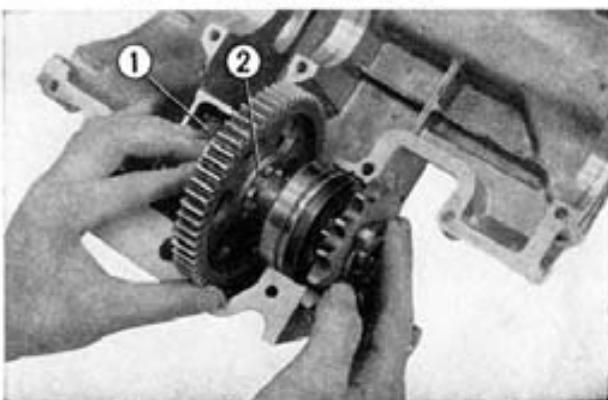

Fig. 5-4 ① Final shaft oil guide
4. Remove the final shaft oil guide and the final shaft assembly from the upper crankcase. (Fig. 5-4).